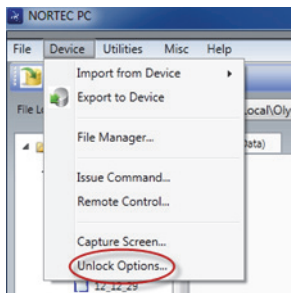

Figure 6-26 The Unlock Options command
2. On the NORTEC PC software **Device** menu, select **Unlock Options** (see Figure 6-26 on page 329).